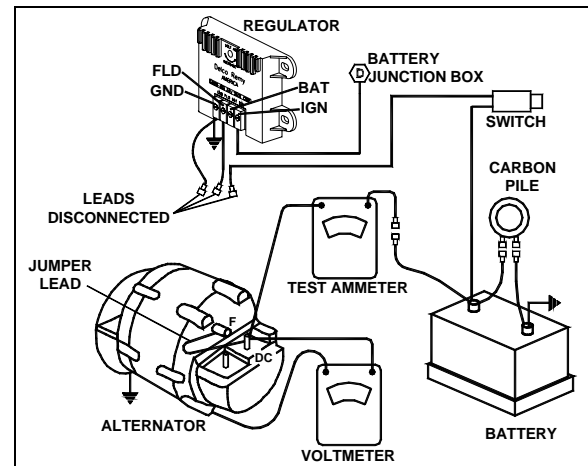

FIGURE 44: REGULATOR VOLTAGE TEST (UNDERCHARGED BATTERY) 06417
6. See figure 44 for wiring connections.